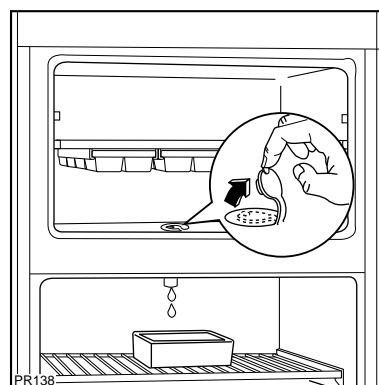

Fig. 12
- turn the thermostat dial to the «OFF» position (O) or disconnect the appliance from the mains.
- Leave the door open, place a basin on the top shelf of the refrigerator compartment, under the drain hole, lift the plug as shown in the figure 12.